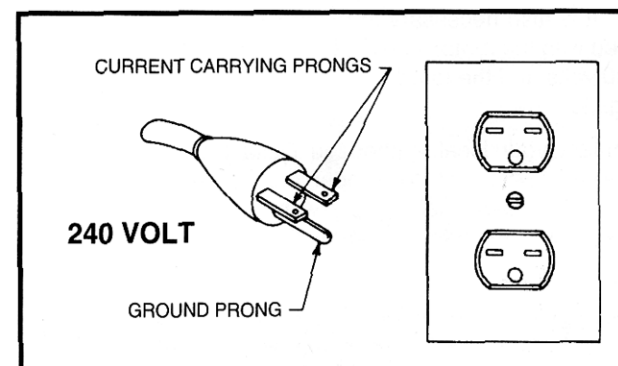
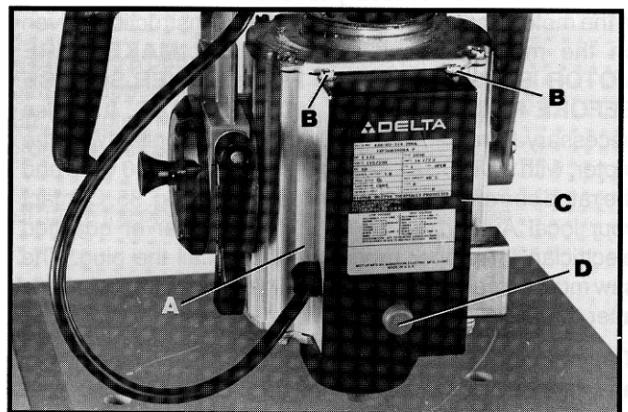

Fig. 35
Fig. 38
The motor supplied with your saw is a dual voltage, 120/240 volt motor. If it is desired to operate your saw at 240 volts, single phase, it is necessary to reconnect the motor leads in the motor junction box by following the instructions given on the motor nameplate. **WARNING: MAKE SURE MOTOR IS DISCONNECTED FROM POWER SOURCE BEFORE RECONNECTING MOTOR LEADS.** It is also necessary to replace the 120 volt plug, supplied with the motor, with a UL/CSA Listed plug suitable for 240 volts and the rated current of the saw as illustrated in Fig. 35. Contact your local Authorized Delta Service Center or qualified electrician for proper procedures to install the plug. The saw must comply with all local and national electrical codes after the 240 volt plug is installed.
The saw with a 240 volt plug should only be connected to an outlet having the same configuration as the plug illustrated in Fig. 35. No adapter is available or should be used with the 240 volt plug.
The motor supplied with your saw is wired for 120 volt operation. If you desire to operate your saw at 240 volts, it is necessary to reconnect the motor leads inside the motor junction box (A) Fig. 38. Proceed as follows:
2. Remove four screws, two of which are shown at (B) and remove nameplate cover (C).
3. Carefully reconnect the leads in the motor junction box (A) by following instructions on the nameplate (C).
4. It is also necessary to replace the 120 volt plug supplied with the motor with a UL/CSA listed plug suitable for 240 volts and the rated current of the saw as illustrated in Fig. 35.
The motor on your saw is equipped with a reset overload relay button (D) Fig. 38. If the motor shuts off or fails to start due to overloading (cutting stock too fast, using a dull blade, using the saw beyond its capacity, etc.) or low voltage, turn the switch to the "OFF" position, let the motor cool three to five minutes and push the reset button (D) which will reset the overload device. The motor can then be turned on again in the usual manner.